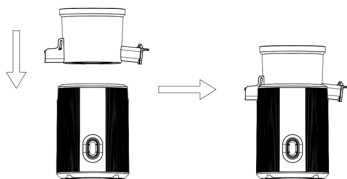

Fig.2
1. Firstly assemble the juicing jar onto the motor unit by following the operation as below: Put the juicing jar downwards to make it be locked on the motor unit tightly (see Fig.2). Make sure the juicing jar is assembled in position properly otherwise the appliance will not operate.